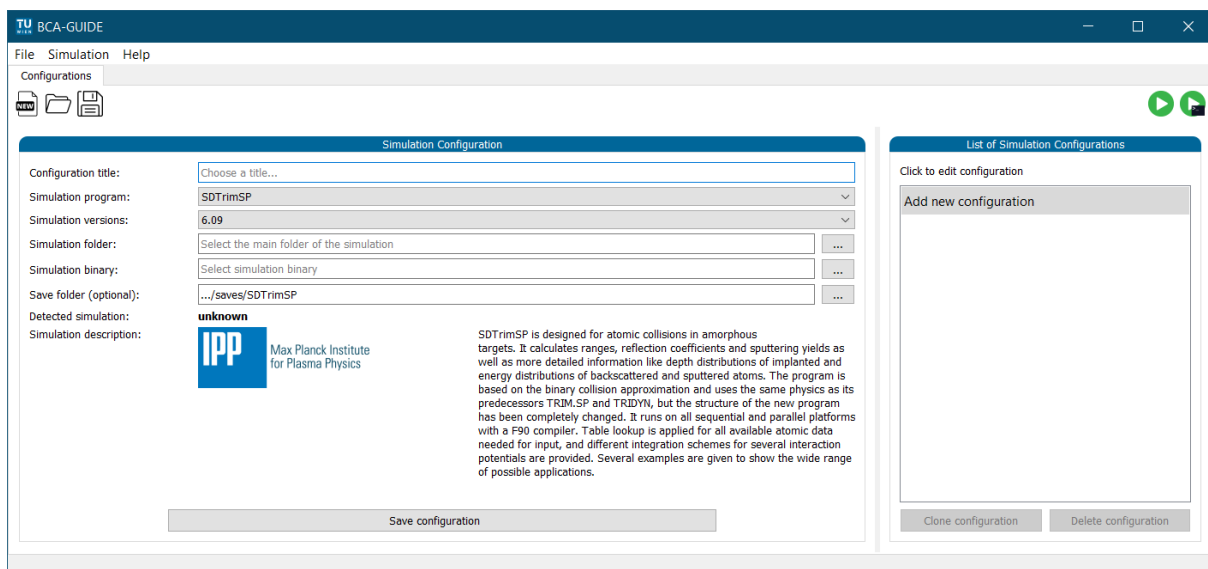

Figure 1: Configurations interface that is displayed on startup and allows for editing simulation configurations.
The GUI was designed to assign each simulation configuration to its own tab, where preparation, execution and data visualization is included. To create a simulation configuration the tab *Configurations* has to be active, which corresponds to the interface shown in Figure 1 that is displayed on startup. In the *Simulation Configuration* group, a liberal title, the simulation program (e.g., SDTrimSP or TRIDYN) and path variables for the simulation have to be chosen:
- Save: Generates the simulation input files depending on the provided parameters. In addition, an internally used universal simulation input file *input.json* will be created that is used for the importing process. The file dialog for saving the input file will start in the directory specified by *Save Folder* of the simulation configuration as shown in Figure 1.